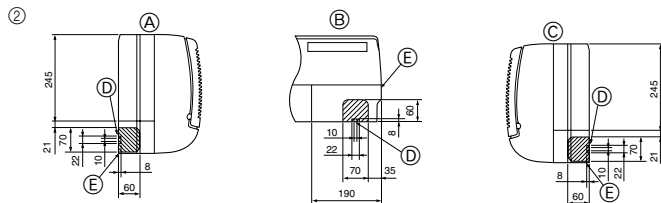

Fig. 4-4
- ② Determine the position of the knockout holes on the unit body. (Fig. 4-4)